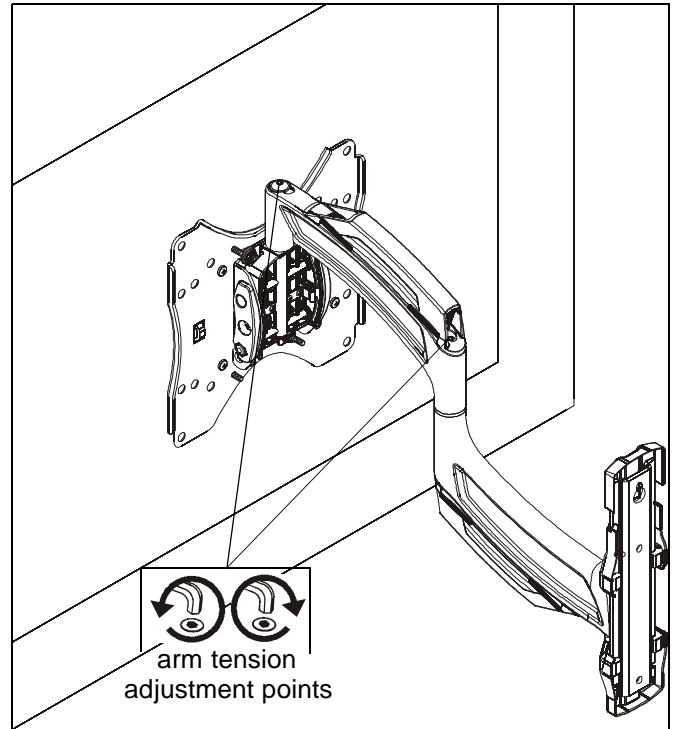
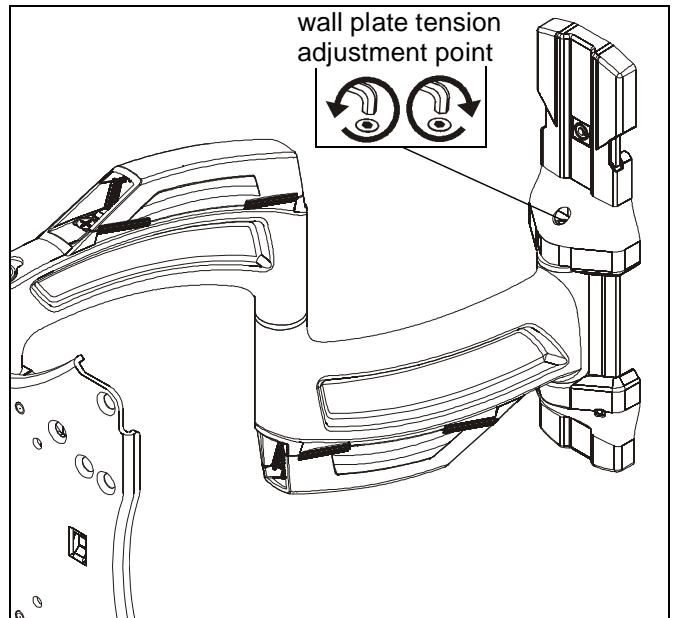

Figure 19
Figure 20
1. Use 3/16" hex key (T) to adjust arm tension at any of the three tension adjustment points. (See Figure 19) and (See Figure 20)